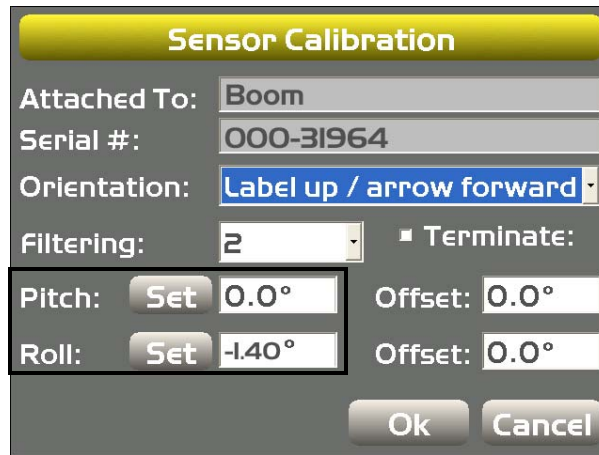

Figure 32: Set Boom Roll Value to Match Body Roll Value
- Once the boom pitch value is set to zero, tap **Set** next to **Roll**, set the boom roll value to match the body roll value, and tap **Set** again (Figure 32).